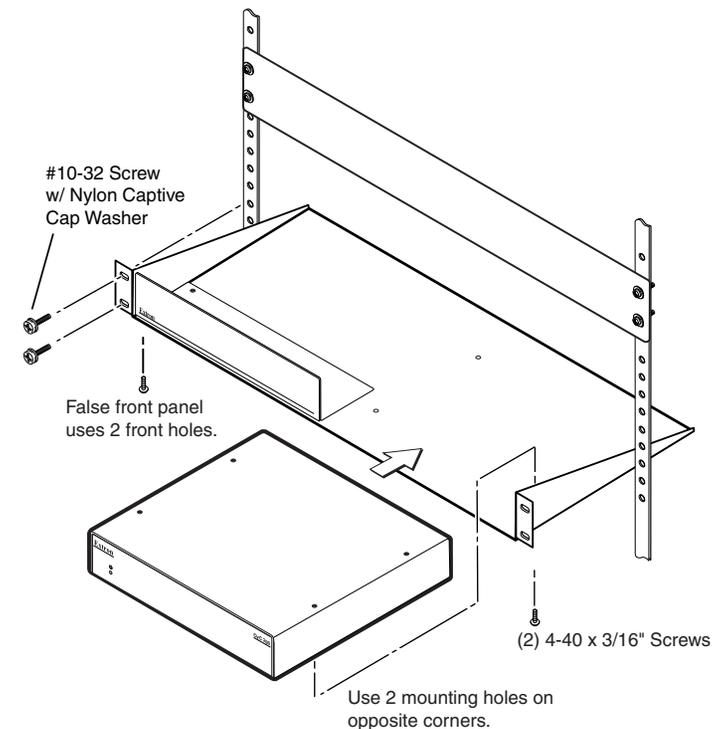

Figure 2 — Rack mounting the CVC 200
2. Mount the CVC 200 on the rack shelf, using two 4-40 x 3/16" screws in opposite corners (under the shelf) to secure the CVC to the shelf (figure 2).